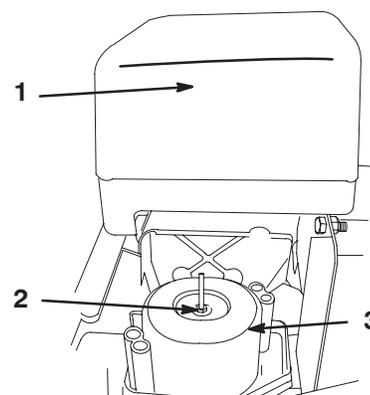

Figure 39
4. Remove the wingnut from the air cleaner cover and remove the cover (Fig. 39).
5. Remove the wingnut from the air filters and remove the filters (Fig. 39).